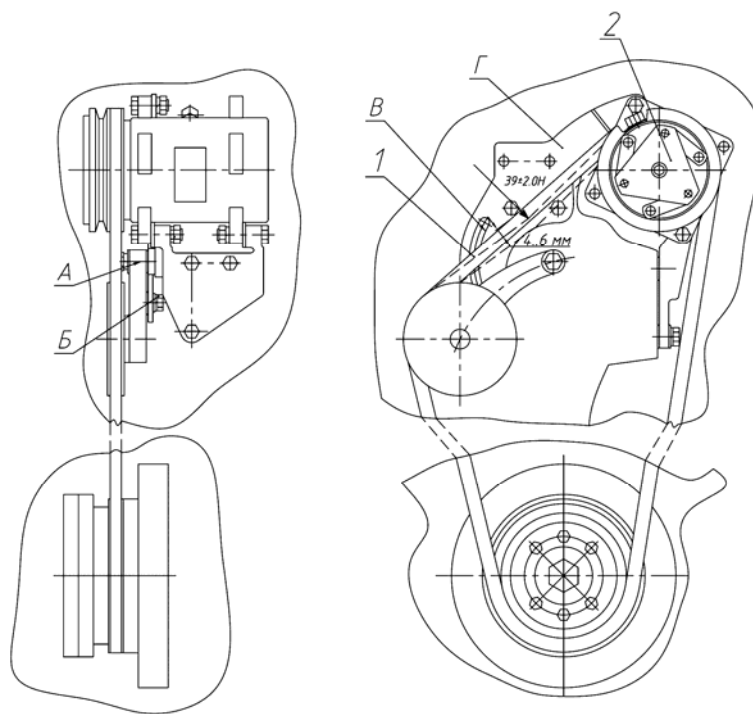

Figure 8.15 Check and adjustment of tension of the belt of air conditioner compressor drive of diesel MMZ.
Tension of belt 1 (figures 8.15, 8.16) of air conditioner compressor drive is considered normal if sag of its branch “engine crank shaft pulley – compressor pulley” measured in the middle is in the range of 4...6 mm upon application of force (39 ± 2.0) N perpendicular to middle of the branch.
Adjustment of belt tension (1) (figures 8.15, 8.16) must be made by turning compressor on rotation axle "A" and clamping threaded connection "B" in groove of sector "B". After adjustment of belt, sag upon effort of $(39 \pm 2.0) \text{ N}$, applied perpendicular to middle of branch must be within range from 4 to 6 mm.